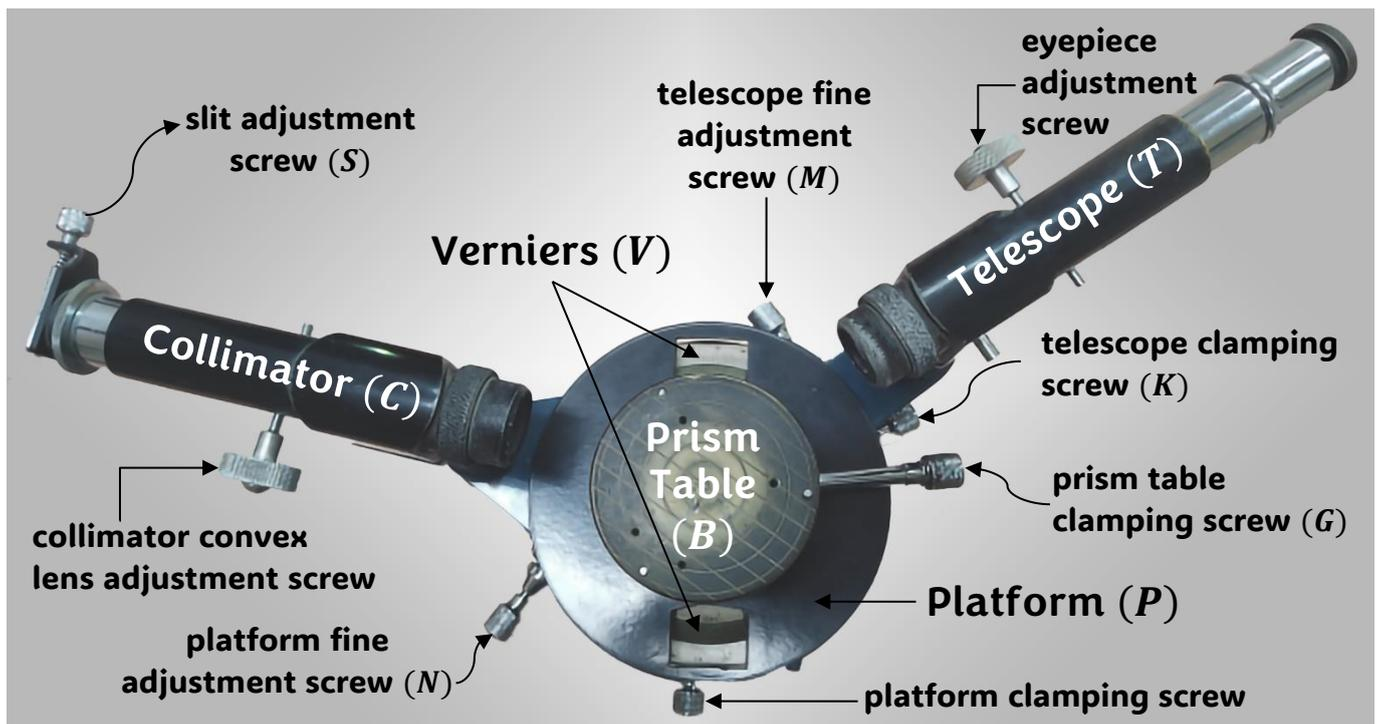

Fig. 3
- The essential parts of a spectrometer (*see fig. 3*) are
- » a telescope (T)
- » a collimator (C) which rigidly attached to the base
- » a prism table (B)
- » a platform (P) which carries two markings and their associated verniers V , 180° apart.
- The prism table (B) can also be independently rotated. It may be locked to the platform by means of the clamping screw G .
- By means of the clamping screw K , the telescope (T) may be locked, when subsequent fine angular adjustment may be made by turning the screw M .
- The platform (P) may be locked by the clamping screw L . When locked, the subsequent fine angular adjustment may be made by turning the screw N .